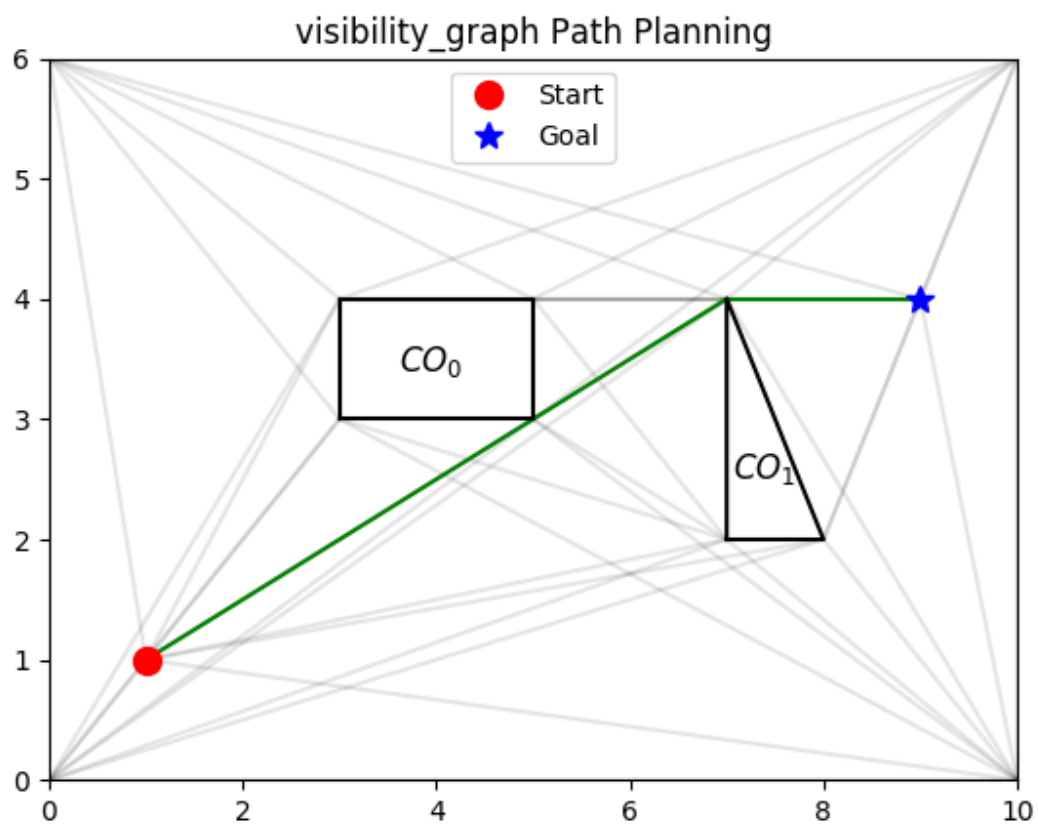

Fig. 4 Visibility Graph
b) The parameters I chose for this implementation is an upper bound of the max number of nodes to sample, I chose 50, as well as the k in kNN, which I chose 5. A possible limitation is that it takes much more time to produce an optimal path because of the closeness of the optimal path to the obstacles, as shown in the Figure 4 with distance 8.7 units, where I implemented the visibility graph algorithm. A positive is that it took the least amount of time to get a path.